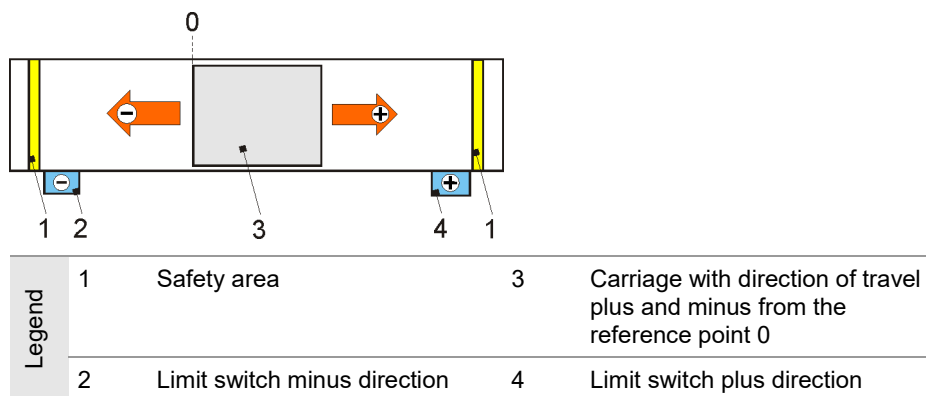

Fig. 6: Example of direction of travel and limit switch circuits
2. Check the direction of rotation of the motor. It must correspond to the safety limit switches (Fig. 6). Change the direction of rotation of the motor if required.